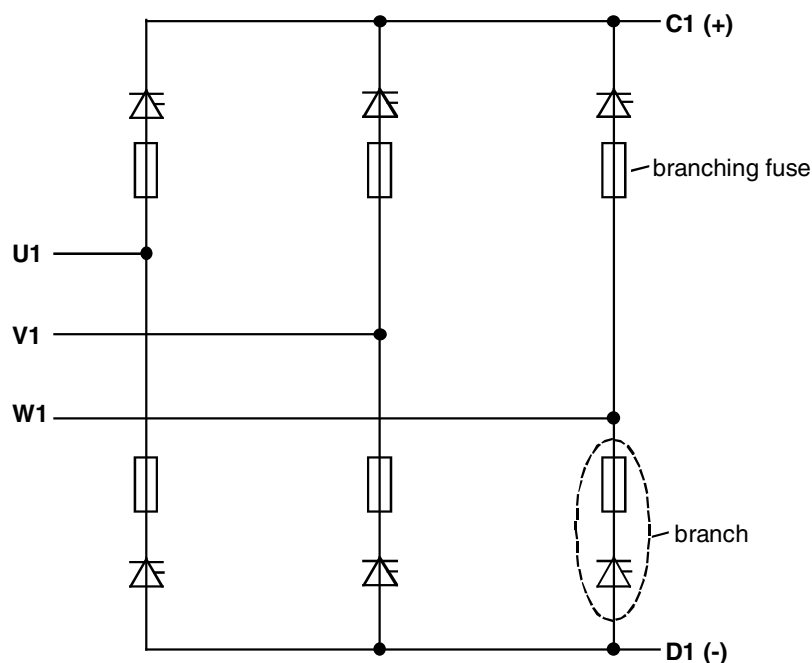

Figure 5-1 Basic B6-bridge with branching fuses
1. Find the defective branches by performing an OHM test (both polarities) between U1, V1, W1 and C1, D1 (see figure 5-1)